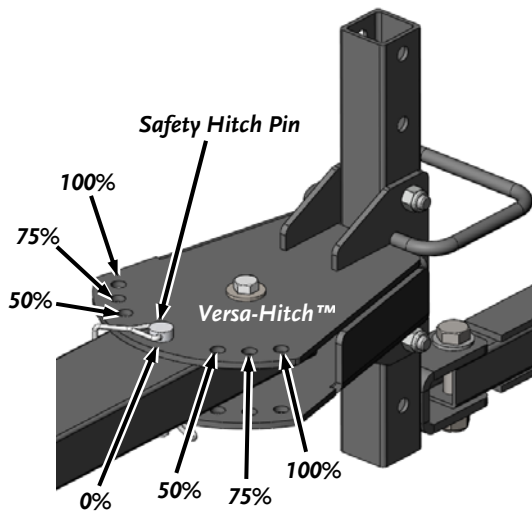

Figure 23
1. Remove the Safety Hitch Pin (**Figure 23**) from the Versa-Hitch™ and pull the Out-Rigger™ Tow Bar to the position that matches the Tow Bar position on the Deck. Re-attach the Safety Hitch Pin.